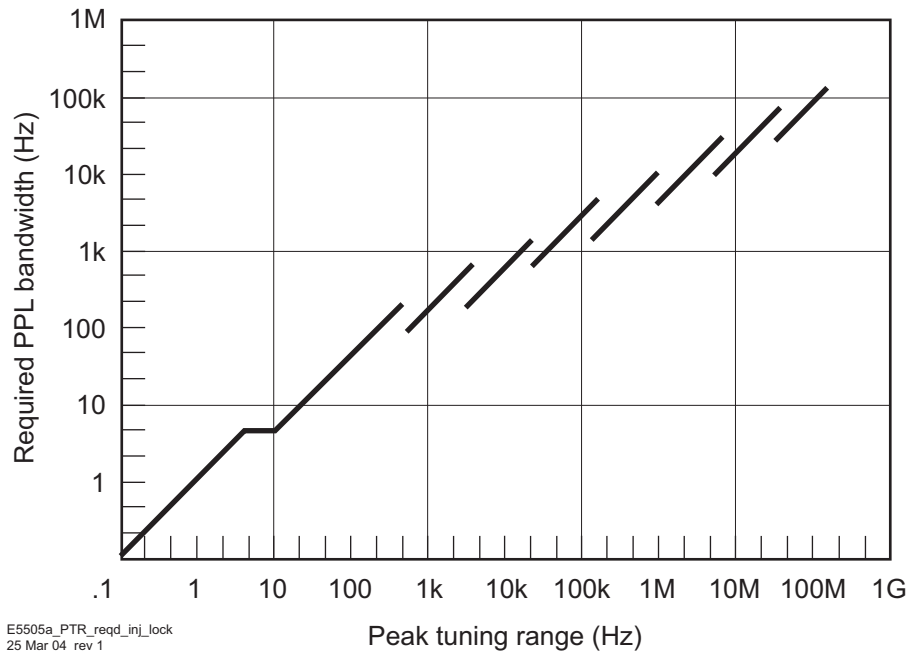

Figure 79 Peak tuning range (PTR) Required by injection locking.
The PTR for the measurement is set by the tuning characteristics of the VCO source you are using. Figure 79 on page 121 shows that increasing the PLL bandwidth can require a substantially larger increase in the PTR. For information on the limitations of increasing the PTR, refer to Changing the PTR in this section.
- 3 Locate the required PLL bandwidth in Figure 79 to determine the PTR required for the measurement. (For details on increasing the PTR, refer to Changing the PTR in this section.)